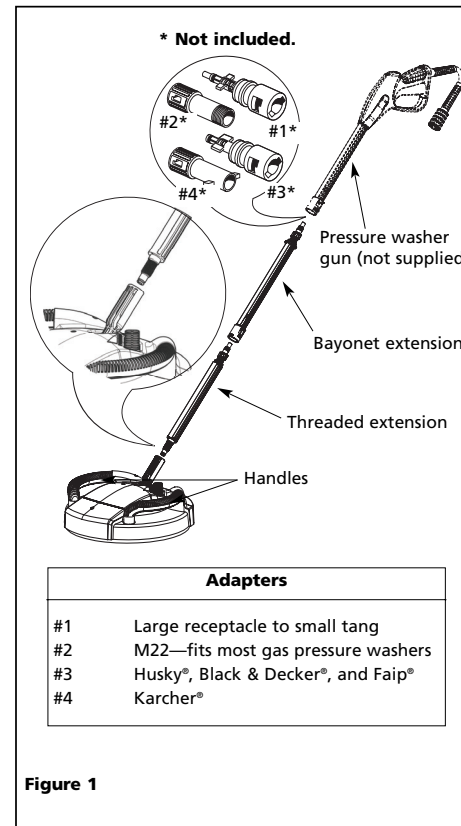

Figure 1
1. Attach threaded extension into surface cleaner base. **Do not overtighten.** Base should rotate easily around extension as shown in Figure 1.
2. Attach bayonet extension to first extension and base. Slide bayonet fitting into extension receptacle. Turn clockwise, as shown in Figure 1.
3. Attach adapter to fit your pressure washer gun as shown in Figure 1. When used with most Campbell Hausfeld electric pressure washers, an adapter is not needed.
4. Attach to pressure washer gun as shown in Figure 1.